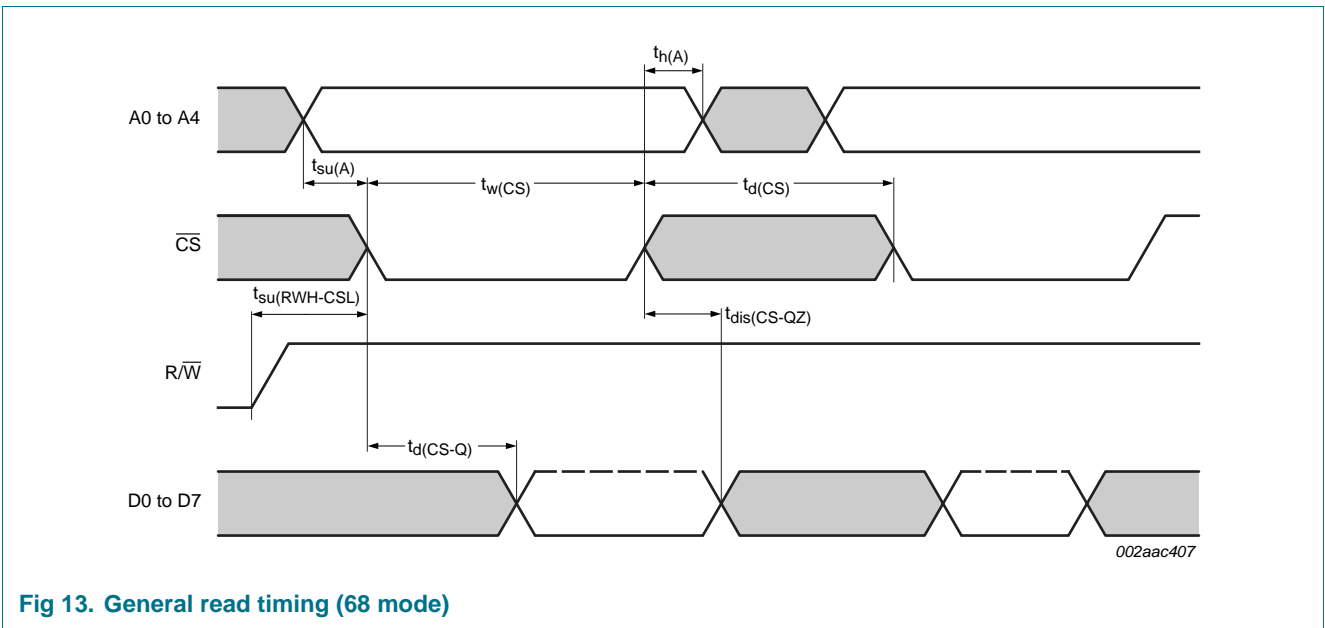

Fig 13. General read timing (68 mode)
(2) $\overline{\text{CS}}$ timing during a read cycle. See Figure 13.